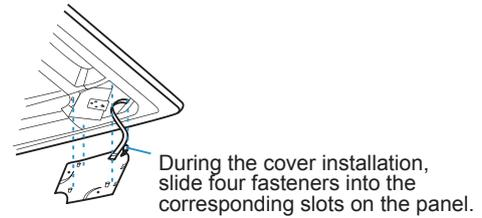

Figure 4.25
- (2) Gently press the installation cover into the panel. See Figure 4.25.